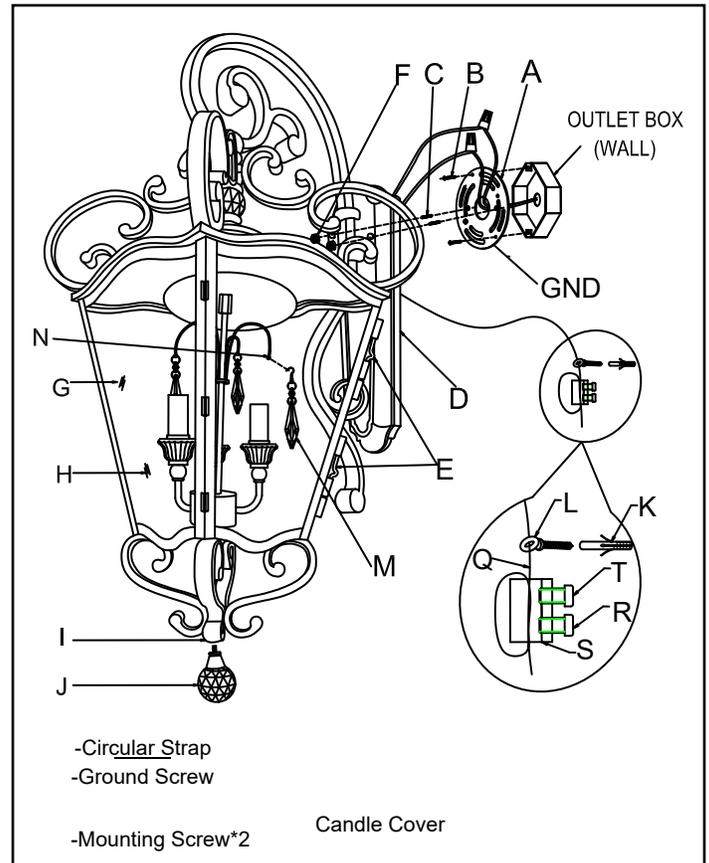

Fig.2
## CONNECTING THE WIRES (Fig. 2)
7. Connect the electrical wires as shown in figure 2, making sure that all wire connectors are secured. If your outlet has a ground wire (green or bare copper), connect the ground wires from the fixture to it. Otherwise, connect the ground wire from the fixture directly to the circular plate (A) and secure with the green screw provided. After wires are connected, tuck them carefully into the wall outlet box.